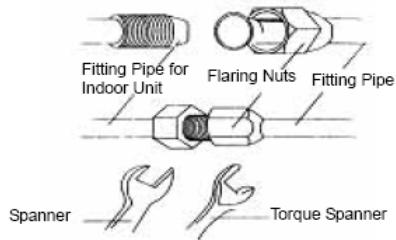

Fig.45
2. Use torque spanner to tighten the flared end nut until the spanner clatters (Fig.45).